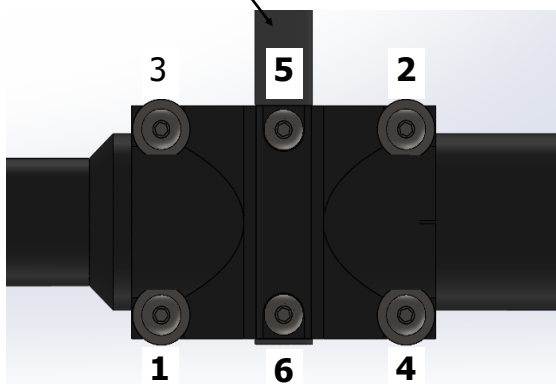
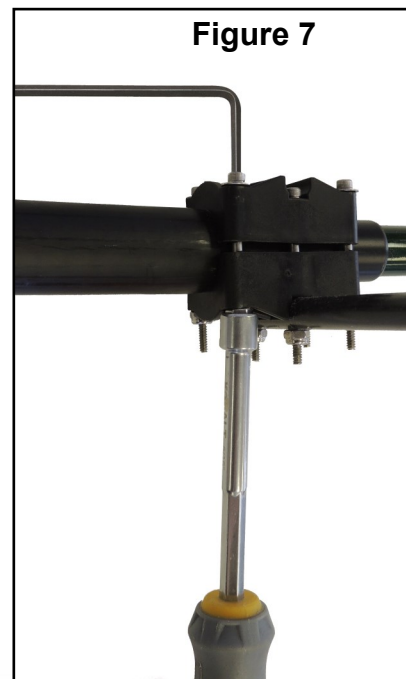

Figure 6
Figure 7
21. Finish tightening the four screws on the outside corners of the plastic coupler. Tighten evenly, in an automobile X type pattern as shown in **figure 6**. If you do not tighten evenly, you may break the fastener. Once the outsides are firmly tight, tighten the two screws that hold the fiberglass spreader in place. **Figure 7** shows the suggested method for tightening the screws.